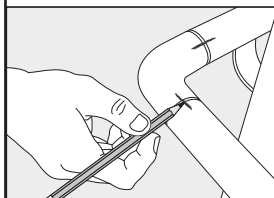

Fig. 9
3. Insert the joiners into the corner. Dry fit the assembled corner with the lineals. If all components are aligned properly, make reference marks (Fig. 9).